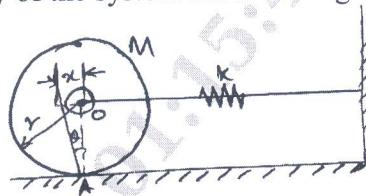

Fig. Q4 (b)
- b. Determine the natural frequency of the system shown in Fig. Q4 (b). (08 Marks)